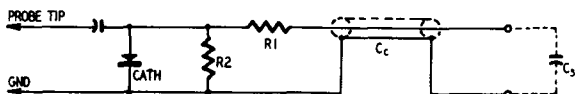

Fig. 109. Probe circuit RC time constant.
Building a probe is a compromise. While we want the values of R and C to be small, fixed values of cable and scope input capacitance are design limiting factors. Furthermore, R1 (in Fig. 109) cannot be made too small, since it will then permit r.f. to get into the scope. If the resistance of R2 is seriously decreased, the
*As seen in Fig. 109, the limiting factor in the ability of a crystal probe to display a modulation envelope on the scope screen is usually determined by the time constant of the scope input circuit, $(C_c + C_s) \times (R_1 + R_2)$. The total input capacitance $C_c + C_s$ charges through R1 and discharges through $R_1 + R_2$. Unless this charging and discharging can take place with sufficient rapidity, there will be negative peak clipping of the waveform displayed on the scope screen. The time constant can be reduced by decreasing the value of C_c . Cable capacitance C_c is usually much larger than scope input capacitance C_s . In a single time-constant interval, the cable can charge up to 63.2% of the peak value of a square wave or, having been previously charged, will be able to discharge in a single time-constant interval to 36.8% of the peak value of the initial charge.